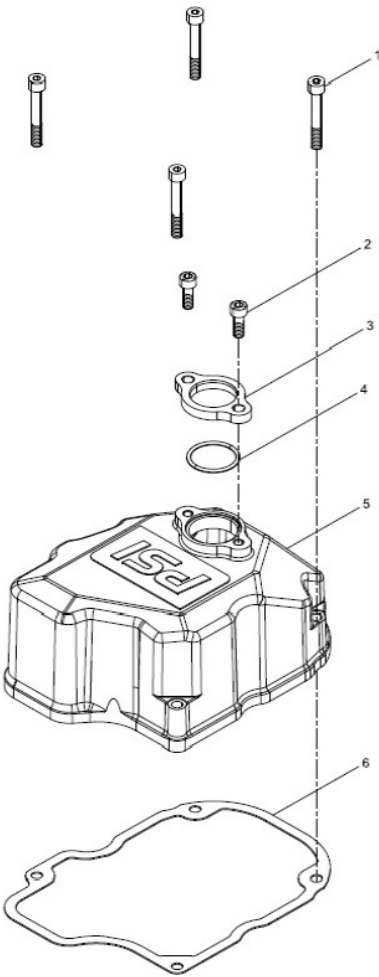

Figure 45. Cylinder Head Cover
1. Remove all four-cylinder head cover bolts (Figure 45, Item 1).
2. Remove the cylinder head cover (Figure 45, Item 5) and gasket (Figure 45, Item 6).
2. Install each gasket (Figure 45, Item 6) onto the cylinder head.
3. Install each cylinder head cover (Figure 45, Item 5) and insert and torque down all four bolts (Figure 45, Item 1) to 20 ft/lbs.
4. Place the cylinder head ignition coil O-ring (Figure 45, Item 4) in preparation for ignition coil installation.